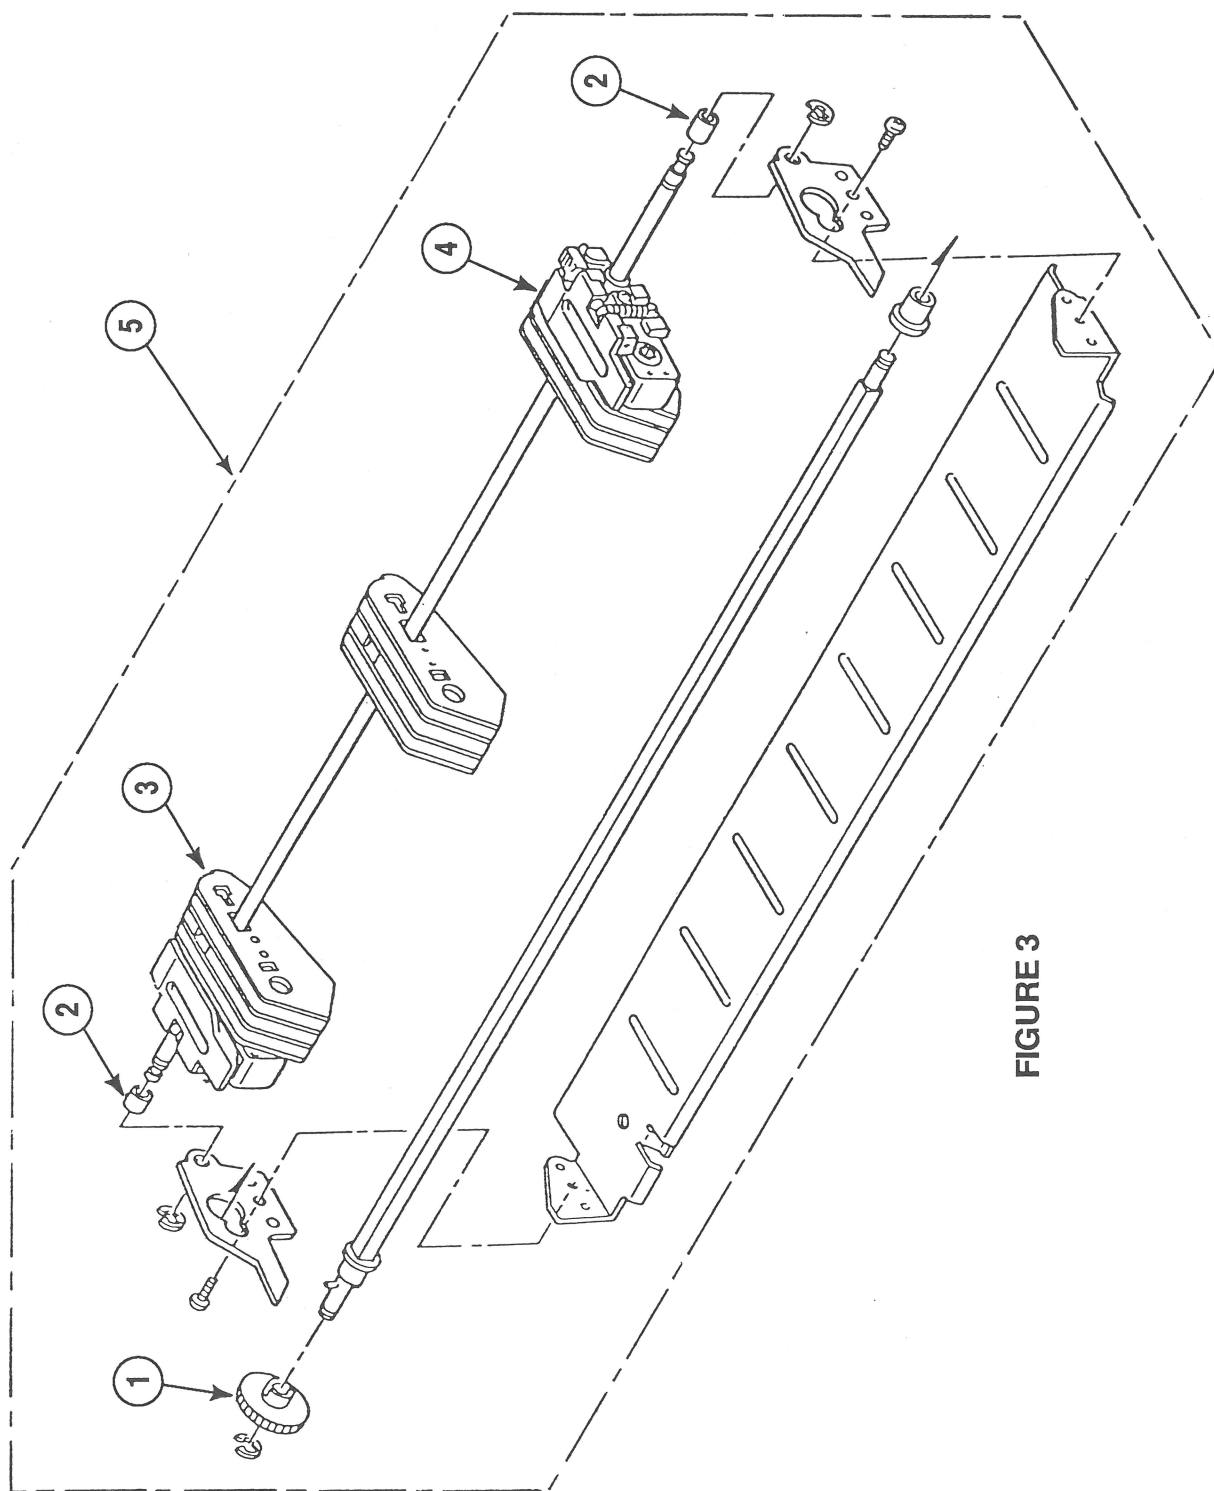

FIGURE 3
□ TRACTOR FEED ASSEMBLY (Figure 3)